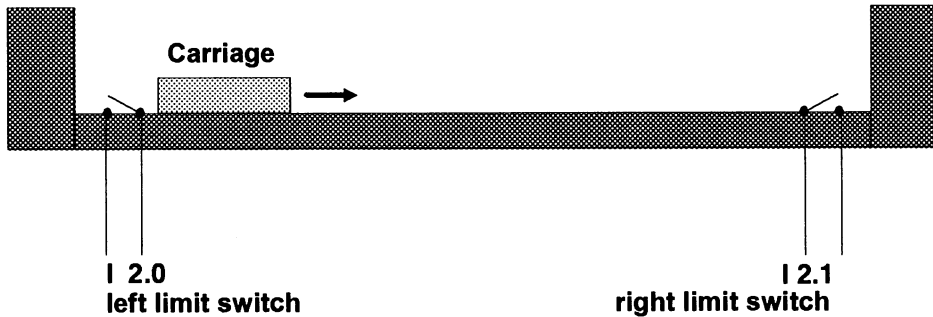

Fig. 1-5 Monitoring a dynamic function and a status
**Example of monitoring a dynamic process (Fig. 1-5):**
**Example of monitoring a status (Fig. 1-5):**